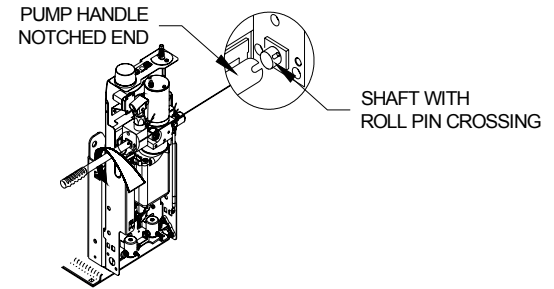

FIGURE 2-12: OPEN RELEASE VALVE
- b. Refer to **Figure 2-12**. Remove hydraulic unit cover to locate pump handle. Insert notched end of pump handle into shaft with roll pin crossing on hydraulic pump unit and engage pump release valve while holding bridgeplate. Once platform starts to deploy, release bridgeplate.
- c. Refer to **Figure 2-12**. Turn valve 1/4 turn counter-clockwise to begin lowering platform.
- a. Refer to **Figure 2-12**. Turn valve 1/4 turn counter-clockwise to begin lowering platform.
- b. Refer to **Figure 2-12**. Verify that pump release valve is closed; do not over-tighten valve.